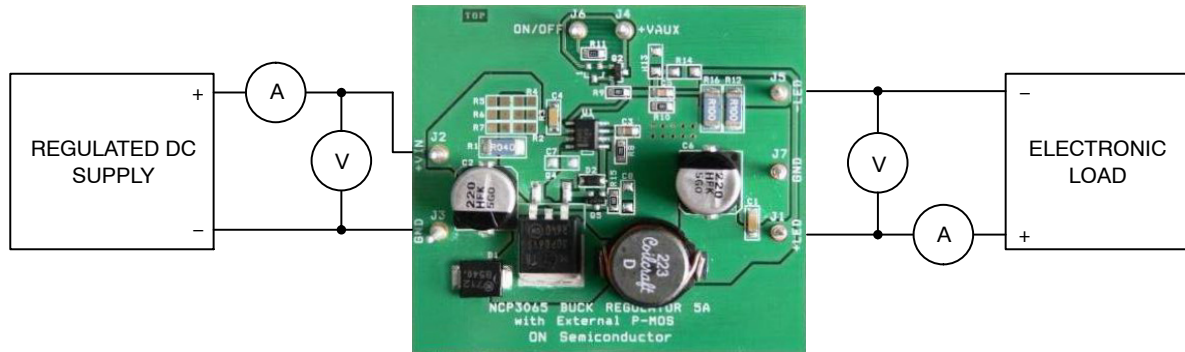

Figure 27. Test Setup for the NCP3065 3A Buck Evaluation Board
1. Connect the test setup as shown in Figure 27.